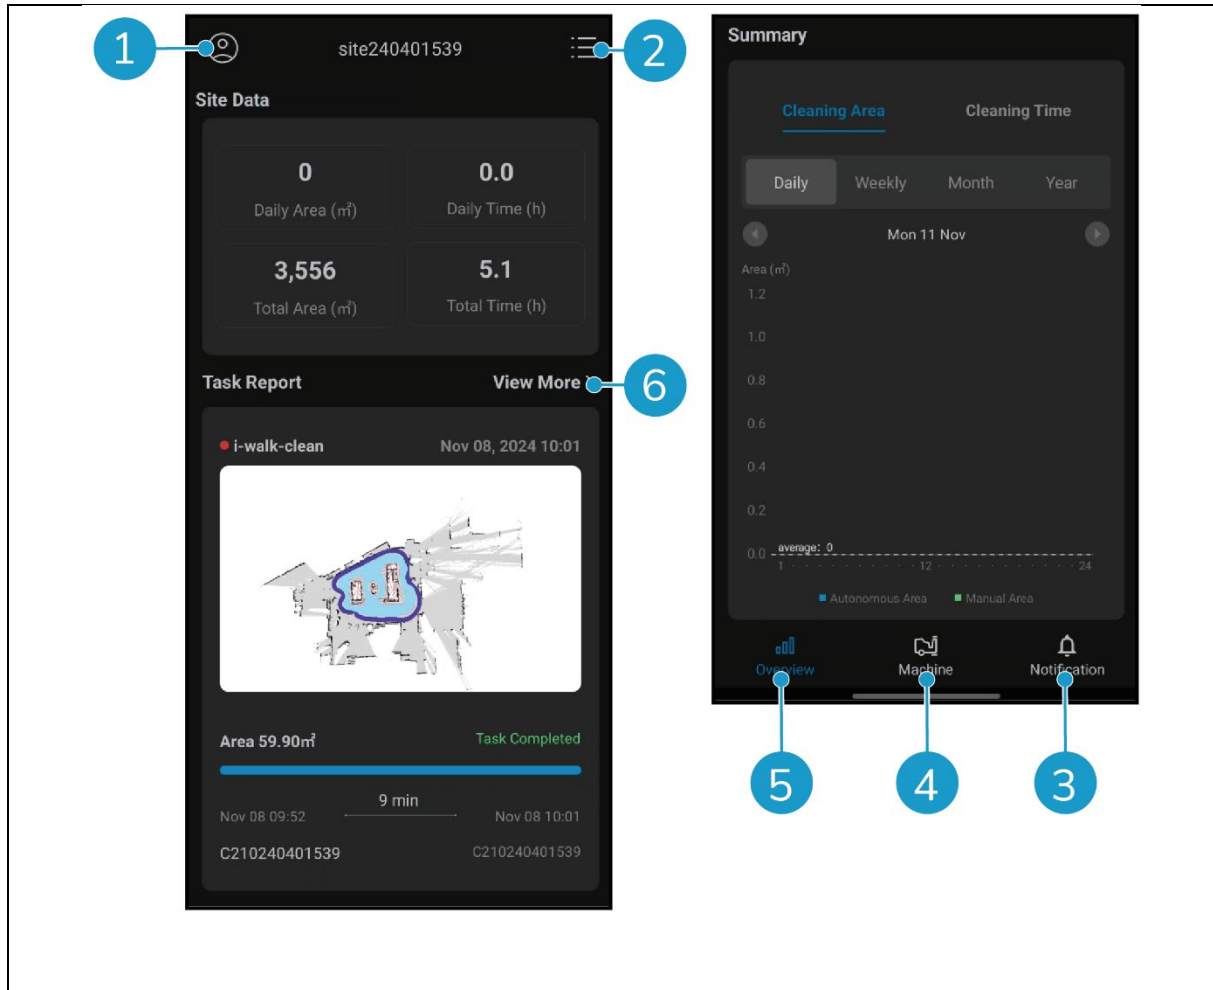

Figure 29
- Tap the [\[Profile\]](#) button (Figure 29, pos. 1) to view Site menu.
- Tap [\[View More\]](#) (Figure 29, pos. 6) to open the Task Report.
- Tap the buttons at the bottom (Figure 29, pos. 3 & 4) to switch to the Machine or Notification menu.